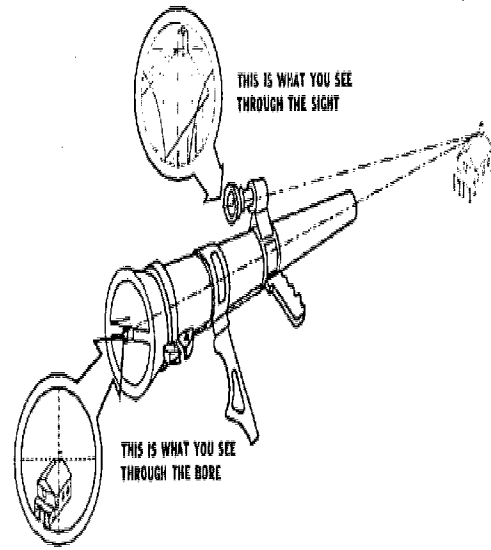

Figure 42. Sight picture in boresighting.
e. Look through the telescope and insure that the boresight cross of the sight reticle is aligned on the same aiming point. If the boresight cross is not alined, bring it to the aiming point by rotating the elevation and azimuth correction screws with the screwdriver end of the combination wrench. Recheck the alinement through the bore and through the sight. When the sight and the bore are properly alined on the aiming point, the 90mm rifle is boresighted (fig. 42).